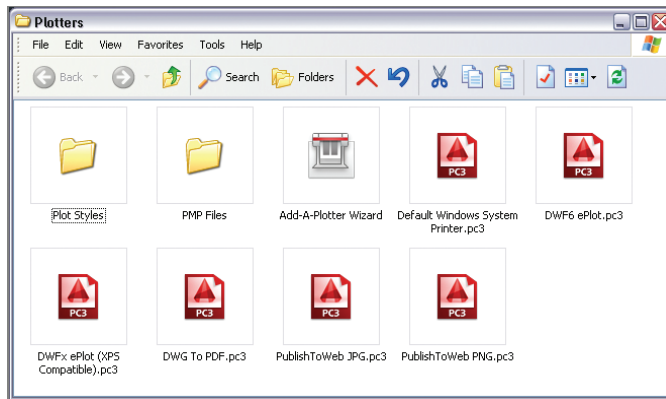

FIGURE 14.1 Explorer window showing two folders, the Add-A-Plotter Wizard, and various AutoCAD plotters
1. In AutoCAD, type **PLOTTERMANAGER** and press Enter. The Windows Explorer dialog box appears displaying the Add-A-Plotter Wizard and various AutoCAD plotters that have the .pc3 file extension (see Figure 14.1).